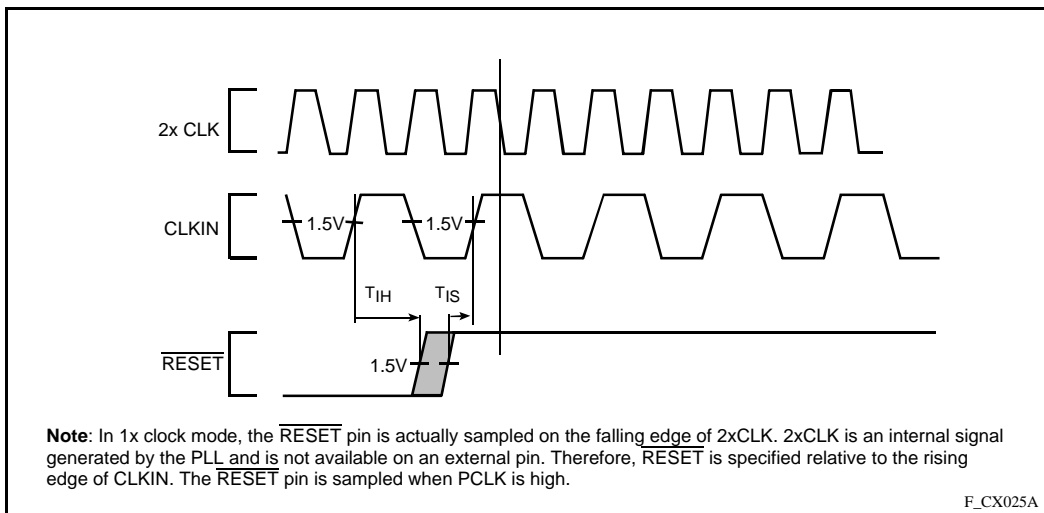

Figure 23. Clock Synchronization in the 1-x Clock Mode
- In 1-x clock mode,  $\overline{RESET}$  is an asynchronous input which has no required setup and hold time for proper operation. However, to guarantee the device exits reset synchronized to a particular clock edge, the  $\overline{RESET}$  pin must meet setup and hold times to the rising edge of the CLKIN. (See Figure 23.)